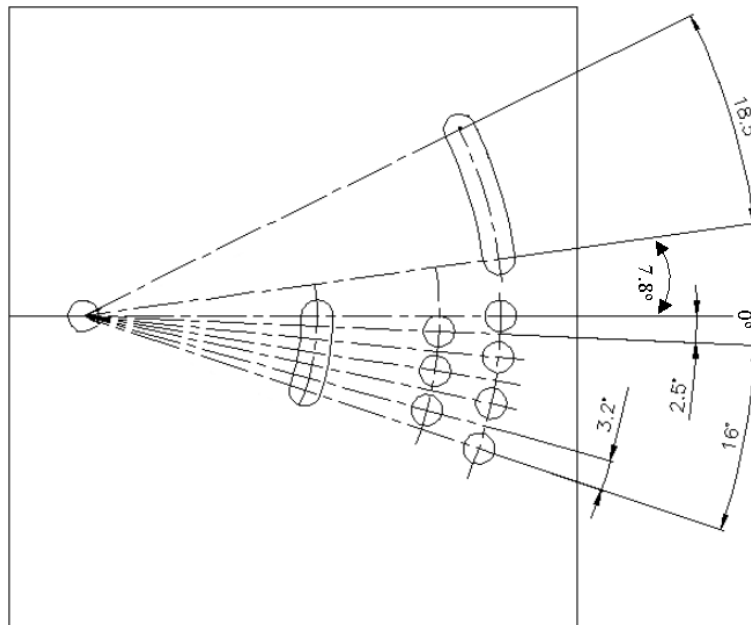

Figure 7-8: Orientating BSR in the elevation plane (side view of BSR)
- a. Adjust the **vertical** position of the BSR by choosing a final elevation hole as described in Step 2. Lock the BSR at the desired position by inserting the locking bolt in the desired position and fastening it tightly. Fasten tightly the bolt in the pivot hole. See Figure 7-8 for a description of the angles (in degrees) of each elevation hole.